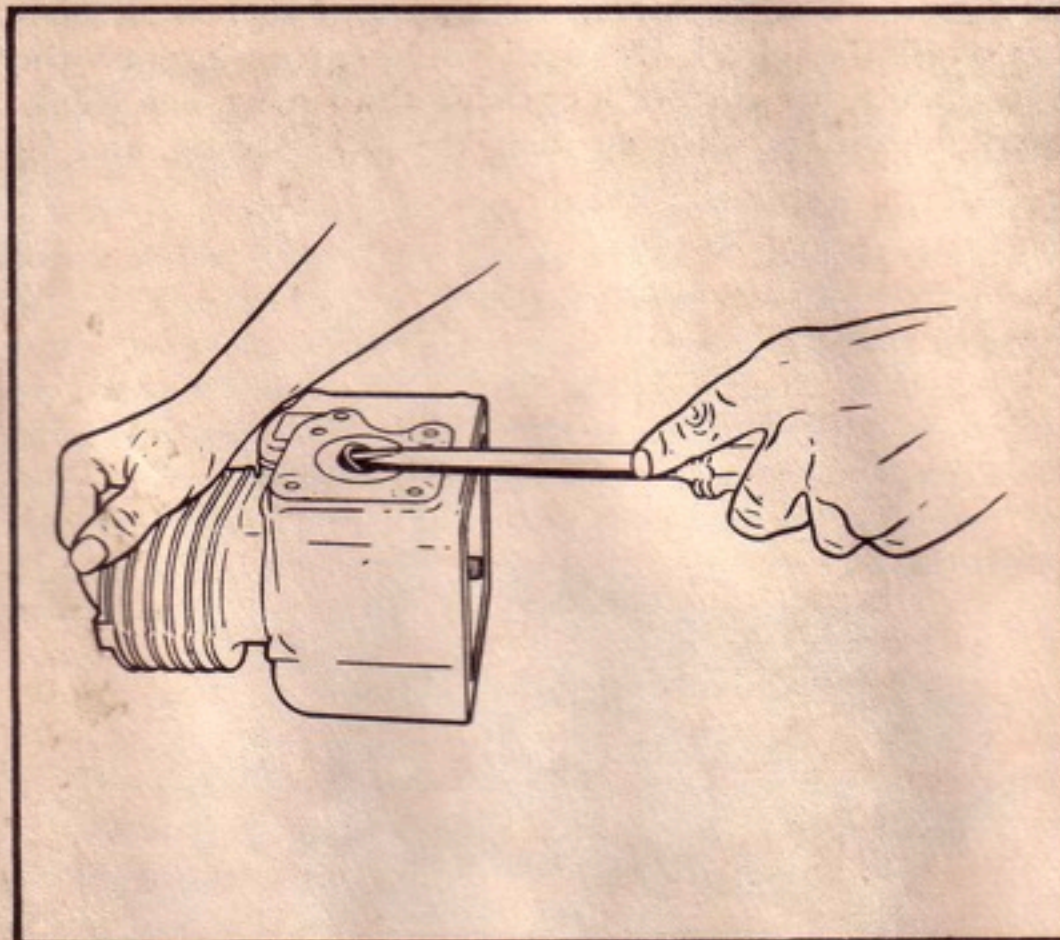

Figure C-11. Removing Oil Seal
a. Remove the oil seals in the cylinder block and bearing plate. (See figure C-11.) These seals can be removed by prying them out of their recesses with a screwdriver. No special care is required, as these parts are to be replaced.